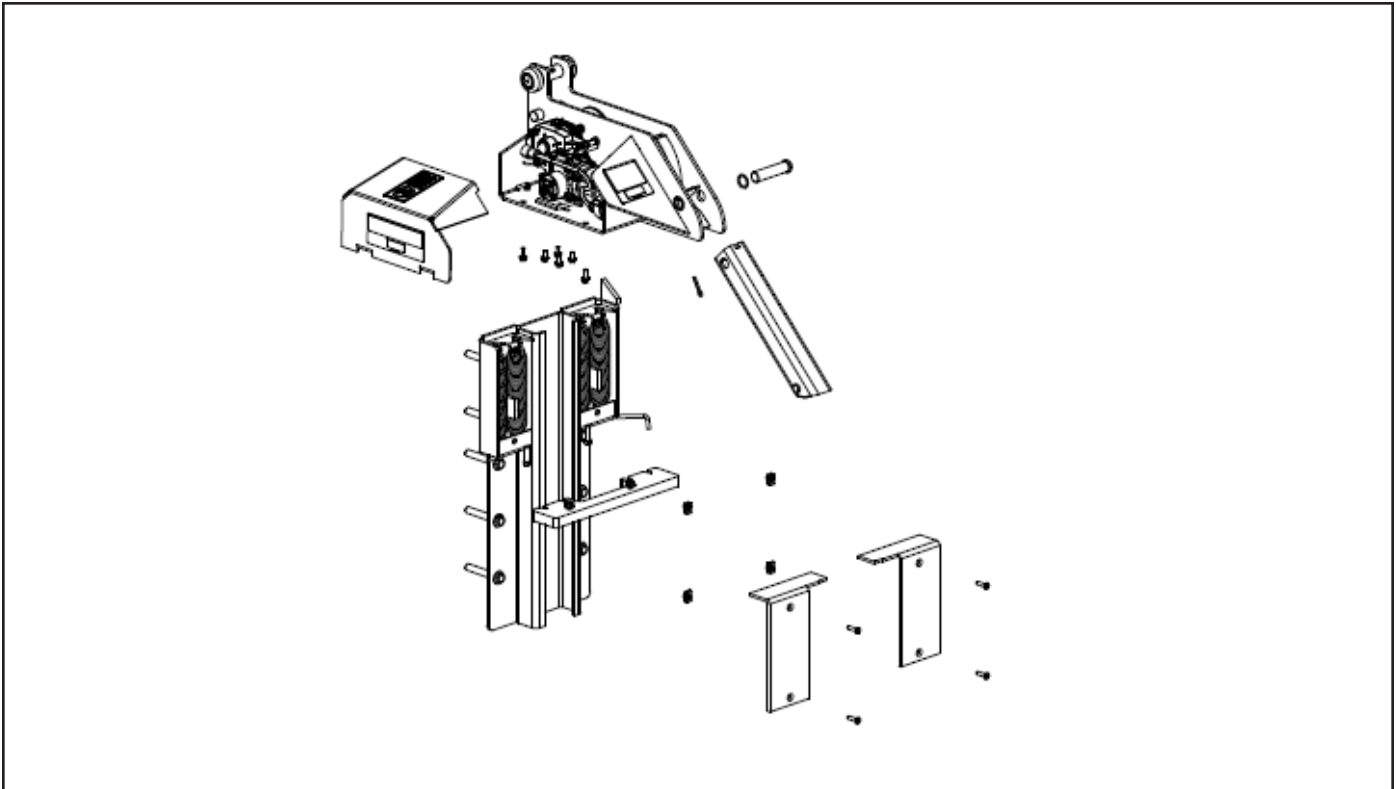

Figure 5-5-1 Install carriage assembly into roller track
- Attach the four (4) springs to the lower spring bar.
- Slide the carriage assembly into the roller track. Refer to Figure 5-5-1.